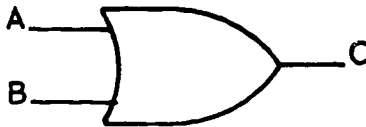

Figure 1-19. Figure for objective 001, exercise 6.
6. Write the correct output (C) for the gate in figure 1-19 when A is low and B is high.